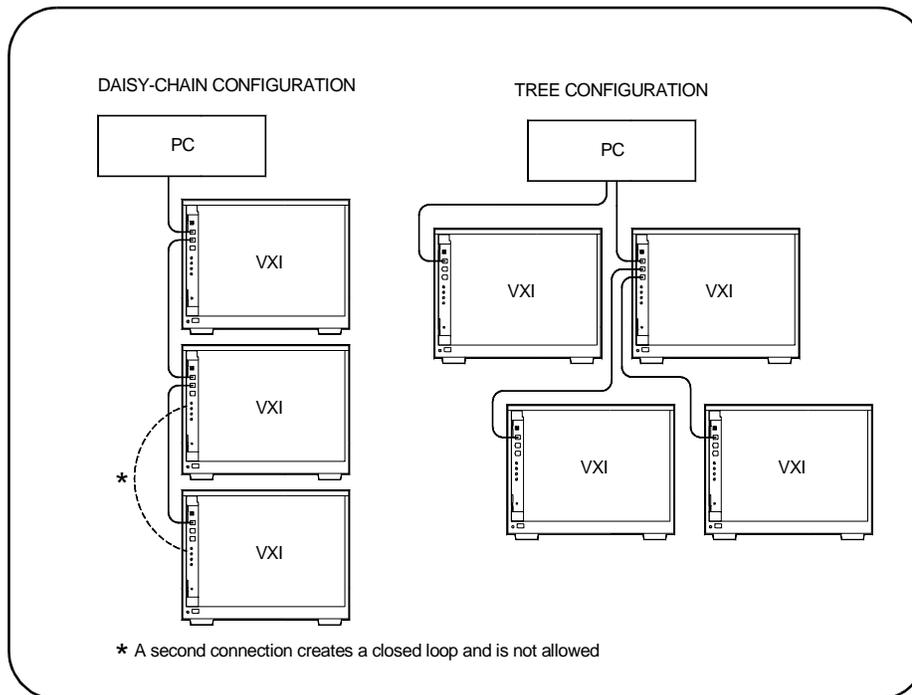

Figure 2-7. IEEE 1394 Interface Configurations.
4. Connect the interface cable from the host adapter to E8491B port A, B, or C. The ports are identical and unused ports are available to connect additional E8491Bs and other IEEE 1394 devices in a daisy-chain or tree configuration (Figure 2-7). Notice that there can